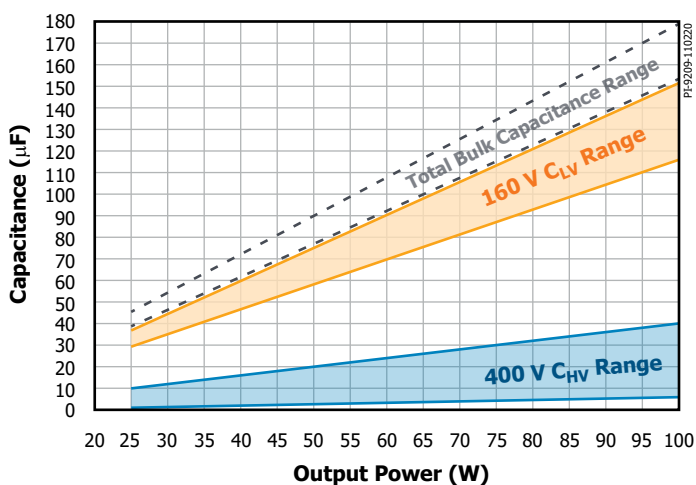

Figure 2. Typical Component Value Ranges for Optimal Space Saving and Converter Operation.
The selection chart of Figure 2 illustrates the recommended range of C_{HV} and C_{LV} values to achieve the required total input capacitance for a given output power.
The capacitance split between C_{HV} and C_{LV} can differ from the proposed values in Figure 2 based on application requirements but it is recommended that the total capacitance is within the suggested range.
Considerations section). 400 V electrolytic capacitors are lower cost and when selected according to Figure 2 also provide up to 50% size reduction compared to traditional designs. A variety of standard input EMI filter configurations can be adopted depending on the form factor of a particular application. The MinE-CAP IC is designed to partner directly with the InnoSwitch family of power supply ICs with a minimum of external components. The existing InnoSwitch V pin resistor is connected to the MinE-CAP VTOP pin while a resistor connected to the VBOT pin enables C_{LV} voltage monitoring. Input voltage and fault information is transmitted from the MinE-CAP LINE (L) pin to the InnoSwitch V pin with no additional components. The MinE-CAP IC also derives its bias supply directly from the InnoSwitch BPP pin.
In high-line start-up condition ($V_{IN} > 150$ VAC), the active charging algorithm of C_{LV} described above is not employed. When selected according to Figure 2, C_{HV} alone can deliver full power converter output power at line voltages above 150 VAC. The InnoSwitch power control IC is therefore enabled immediately using the V pin output signal while C_{LV} is trickle charged at a lower rate until the steady-state C_{LV} voltage is reached. The voltage across C_{LV} is subsequently precisely monitored and recharged as required depending on input line conditions.
The value of the input capacitors can be determined based on the Capacitance vs. Output Power curve shown in Figure 2. For an output power of 65 W, the nominal capacitance for the high-voltage capacitor, C_{HV} , should be 30 μ F while the low-voltage capacitor, C_{LV} , should be around 90 μ F. Both capacitors are mounted with their axial lines parallel to the PCB; thus, both capacitors must have a maximum diameter of 10 mm to fit the 12 mm height requirement of the design. The remaining 2 mm clearance is for the installation of a heat spreader with insulation as well as to account for enclosure tolerances. Using the above requirements and after a few test iterations and based on component availability, the final input capacitor specifications are as follows: